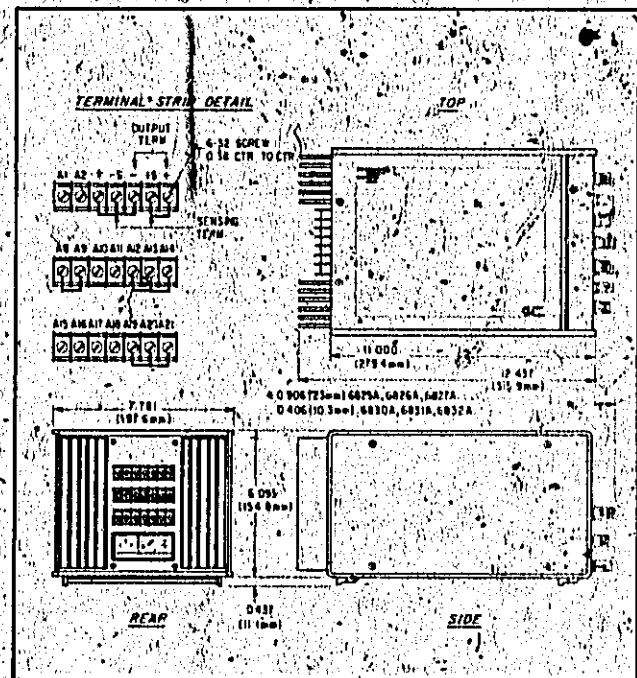

Figure 2-1. Outline Diagram
<p>Input Power: Model 6826A: 104, 127, 208, 254 Vac (switchable) 48-63 Hz, 1.0A, 130W Model 6827A: 104, 127, 208, 254 Vac (switchable) 48-63 Hz, 1.2A, 150W</p> <p>Meters: Individual voltage and current meters. DC accuracy is 0% of full scale, AC accuracy is 5% full scale with sinusoidal, 100Hz input.</p> <p>Meter Ranges (DC): Model 6826A: ±6V, ±60V ±0.12A, ±1.2A Model 6827A: ±12V, ±120V ±0.06A, ±0.6A</p> <p>Meter Ranges (AC): Model 6826A: 4V (uncal), 40V rms 0.08A rms, 0.8A rms Model 6827A: 8V (uncal), 80V rms 0.04A rms, 0.4A rms</p> <p>Temperature Ratings: Operating: 0 to 55°C Storage: -40 to +75°C</p> <p>Cooling: Convection cooling is employed. The supplies have no moving parts.</p> <p>Dimensions: See outline diagram, Figure 2-1.</p> <p>Weight: 18 lbs. (8.2 kg.) net, 21 lbs. (9.5 kg.) shipping.</p>	<p>DC Output (Continued): Model 6827A: X1 Range: -10V to +10V, 0 to 0.5A X10 Range: -100V to +100V, 0 to 0.5A</p> <p>Load Effect (Load Regulation): Voltage load effect is given for a load current change equal to the current rating of the supply. Current load effect is given for a load voltage change equal to the voltage rating of the supply.</p> <p>Model 6826A: Voltage (X1 Range): 0.01% ± 5mV Voltage (X10 Range): 0.01% ± 1mV Current: 0.1% ± 250µA</p> <p>Load Effect (Load Regulation) Continued: Model 6827A: Voltage (X1 Range): 0.1% ± 3mV Voltage (X10 Range): 0.1% ± 1mV Current: 0.1% ± 250µA</p> <p>Source Effect (Line Regulation): For a change in line voltage between 104 and 127 Vac/208 and 254 Vac at any output voltage and current within rating.</p> <p>Model 6826A: Voltage (X1 Range): 0.1% ± 5mV Voltage (X10 Range): 0.1% ± 5mV Current: 0.1% ± 250µA</p> <p>Model 6827A: Voltage (X1 Range): 0.1% ± 1mV Voltage (X10 Range): 0.1% ± 10mV Current: 0.1% ± 250µA</p> <p>PARD (Ripple and Noise): Rms/p-p (20Hz to 20MHz) at any line voltage and under any load condition within rating.</p> <p>Model 6826A: Voltage (X1 Range): 2mV rms/10mV p-p Voltage (X10 Range): 6mV rms/35mV p-p Current: 3mA rms/5mA p-p</p> <p>Model 6827A: Voltage (X1 Range): 2.5mV rms/15mV p-p Voltage (X10 Range): 10mV rms/60mV p-p Current: 4mA rms/5mA p-p</p>
2-14 Figure 2-1 illustrates the outline shape and dimensions of Models 6826A and 6827A.